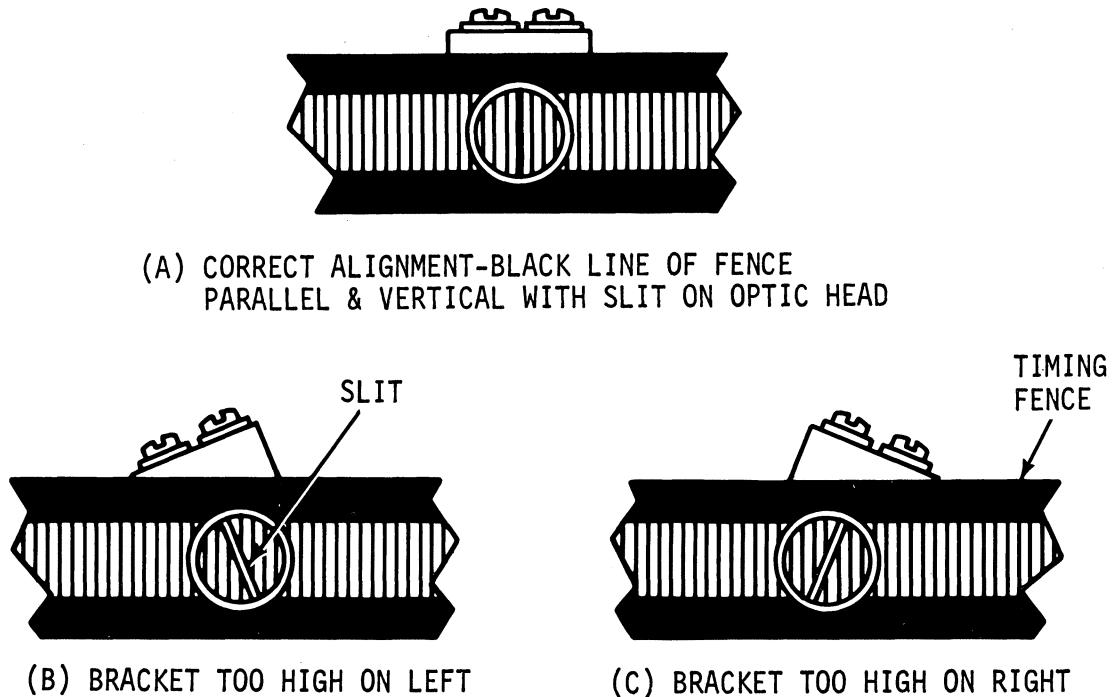

Figure 5-11. FIBRE OPTICS HEAD ALIGNMENT AND FLEXIBLE TIMING FENCE
5. From a position in front of optic timing fence (B-36) and with fibre optic bundle (B-31) pointing to a light source, correctly align illuminated slit (B-40) on optics head (B-31) by observing through empty light housing (B-32) so that light slit on optics head is completely blocked by any black line on the timing fence. (Figure 5-11 (A)).
6. The following two conditions may apply to light alignment in previous step 5 when the slit on optics bundle is out of alignment with respect to the black line on timing fence (Figure 5-11 (B) and (C)).
- a. If the bracket (B-26) holding the optics head is too high on left (Figure 5-2 (B), tap bracket to align slit and black line (Figure 5-11 (A)).
- b. If the bracket holding the optics bundle is too high on the right (Figure 5-11 (C), tap bracket to align slit and black line (Figure 5-11 (A)).
7. Insert lamp (B-41) into socket (B-42) attached to lamp retainer (part of lamp socket), but note that prior to insertion into lamp ass'y be certain lamp filament (inside Lamp B-41) is in a vertical plane paralleling slit (B-40) in the opposing fibre optics head (B-31) for maximum blockage of light by black line on fence (Figure 5-11(A)). Insert and tighten screw (B-37), washers (B-38, 44) into lamp retainer (B-42) and lamp ass'y (B-32).